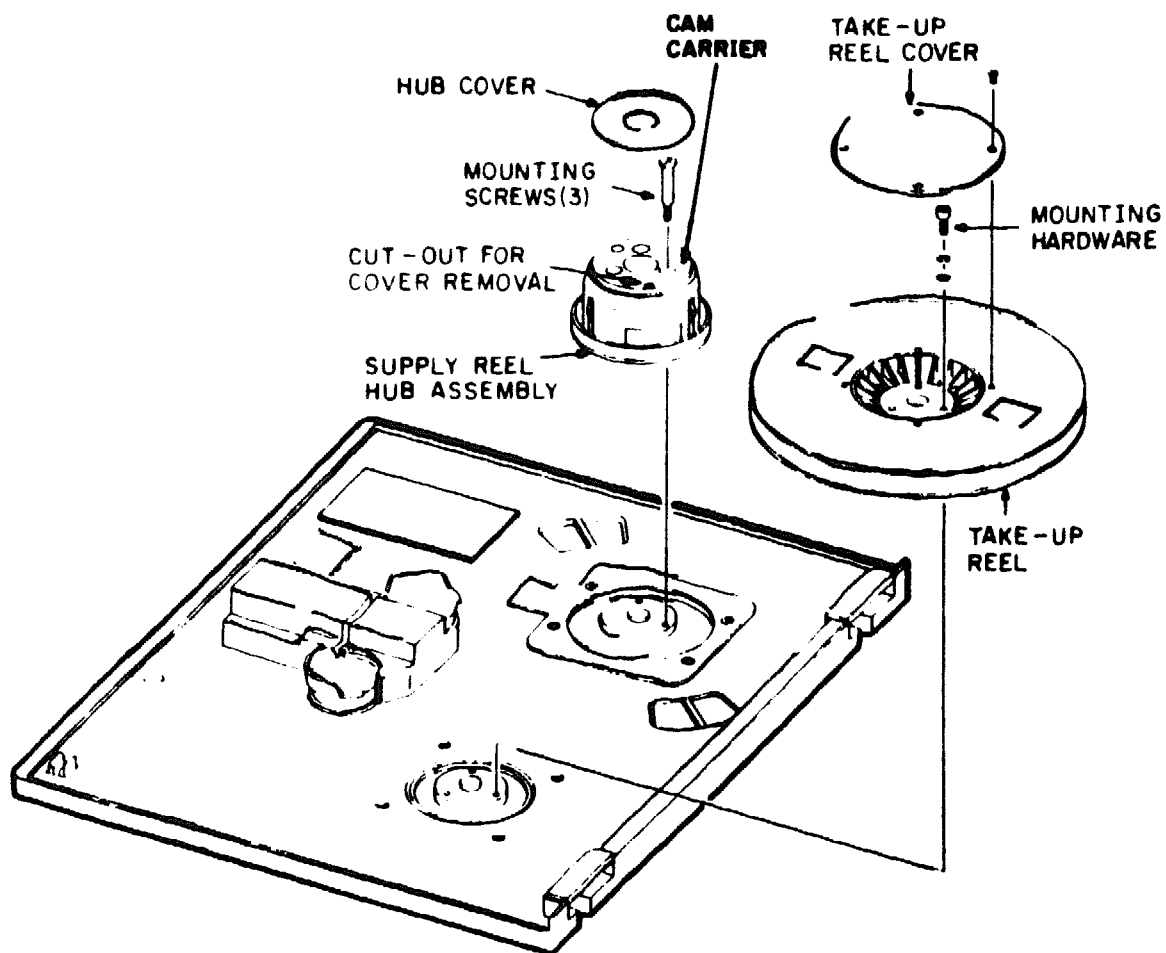

Figure 5-8. TAKE-UP REEL/SUPPLY REEL HUB ASSEMBLIES
1. Remove the four mounting screws from the take-up reel hub cover and remove the cover from the hub assembly. See Figure 5-8.
Removal (Refer to Figure 5-8)